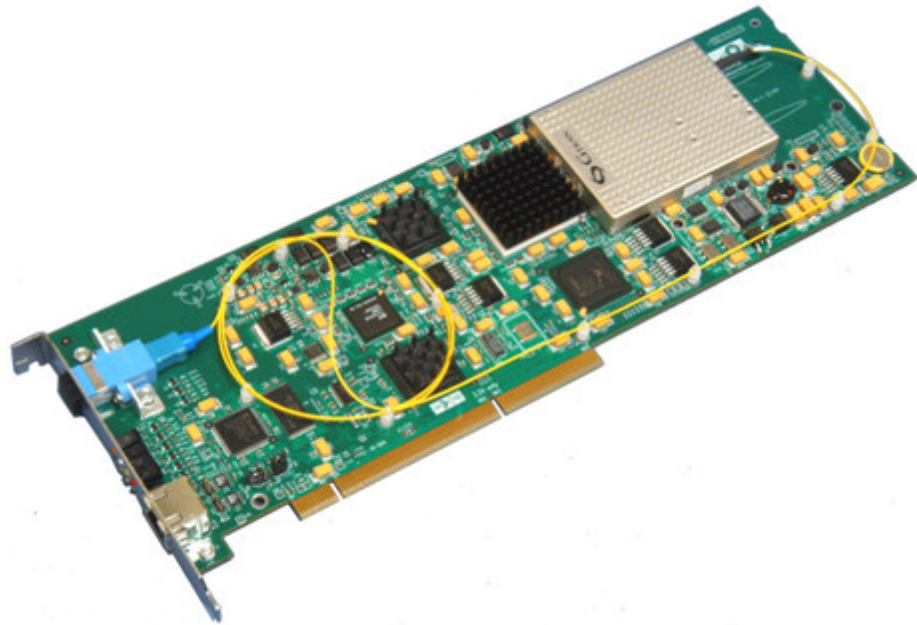

Figure 1-1. DAG 6.1S PCI-X Card.
**Figure** Figure 1-1 shows the DAG 6.1S PCI-X card.